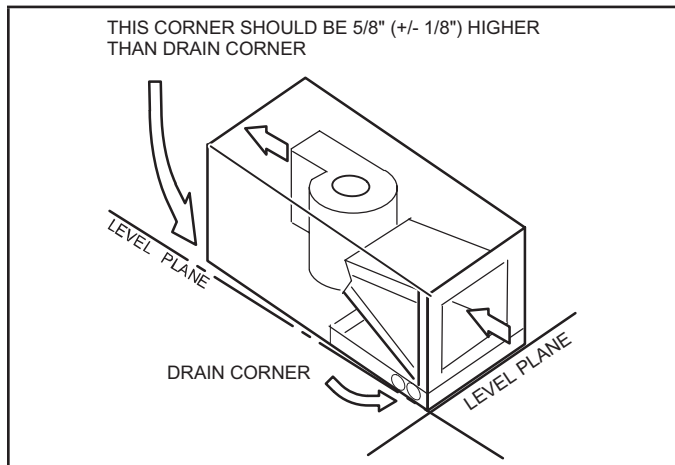

FIGURE 14. Sloping the Unit for Proper Drainage
- 3 - Set unit so that it is sloped toward the upflow drain pan end of the unit and level from front to back of unit (see FIGURE 14).
Make sure the unit is sloped (similar to the slope shown in FIGURE 14) so that the drain pan will empty completely without water standing in the pan.
- 6 - Install a 2" trap in the main (primary) drain lines as close to the unit as practical (see FIGURE 14). Make sure the top of the trap is below the connection to the drain pan to allow complete drainage of the pan.
NOTE - Horizontal runs must have an anti-siphon air vent (standpipe) installed ahead of the horizontal run. See FIGURE 14. An extremely long horizontal run may require an oversized drain line to eliminate air traps.